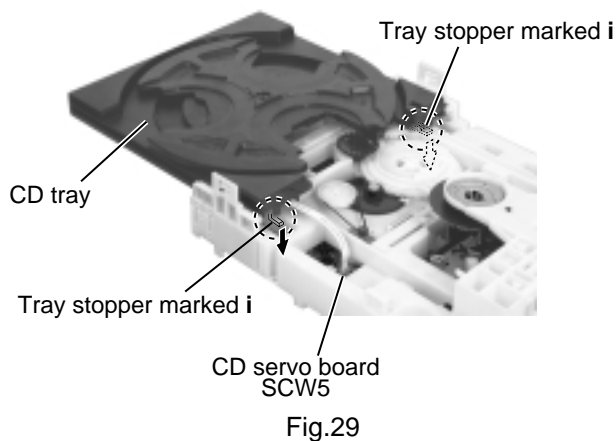

Fig.29
1. Align the gear-cam with the gear-tray as shown fig.29, then mount the CD tray.